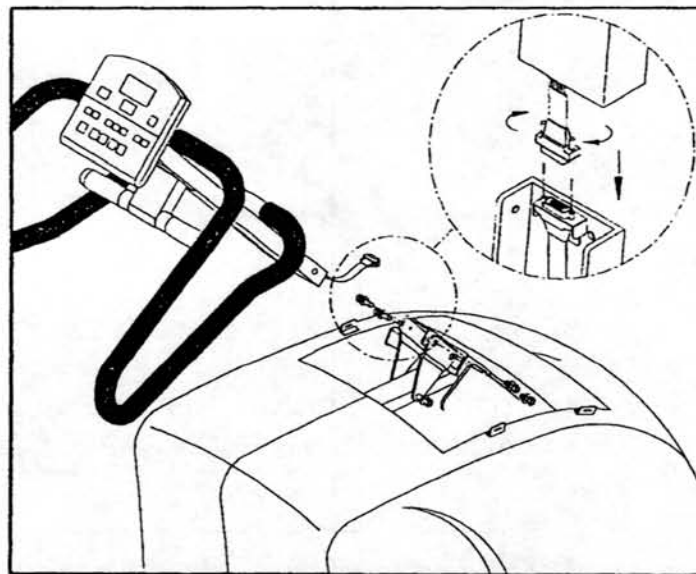

Fig.10-4
2. Plug the connectors of THE RIBBON CABLE securely and fasten them by screwing. Assemble the UPRIGHT COLUMN on the FRAME SUPPORT and secure it by screws (see fig10-4).